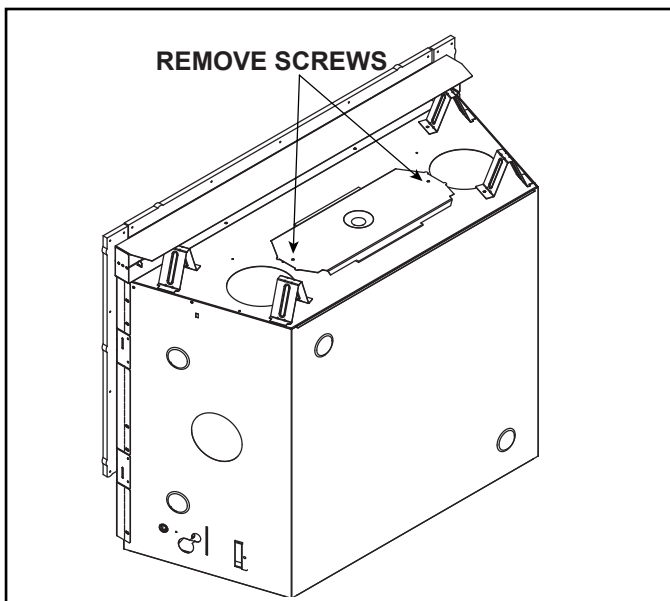

Figure 6.1 Heat Shield Shipping Position
1. Remove two screws and discard. See Figure 6.1.